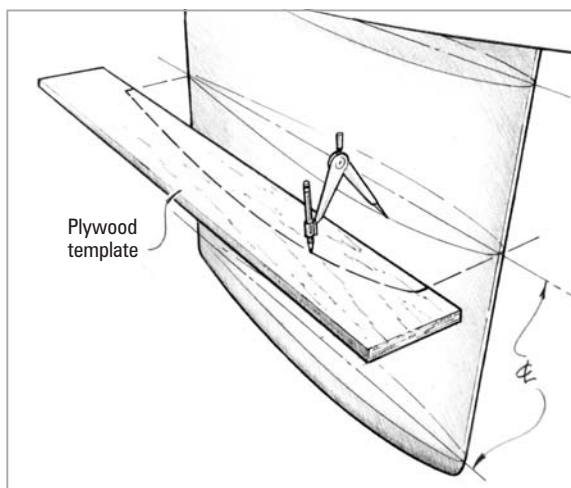

Figure 16 Prepare a rough plywood template scribed to within $\frac{1}{4}$ " of the profile you wish to transfer.
2. Prepare a rough plywood template scribed to within $\frac{1}{4}$ " of the profile you wish to transfer (*Figure 16*). Cut the template from $\frac{3}{8}$ " or $\frac{1}{2}$ " plywood or particle board several inches longer than the foil. Prepare a method to clamp or brace the template in position against the surface.